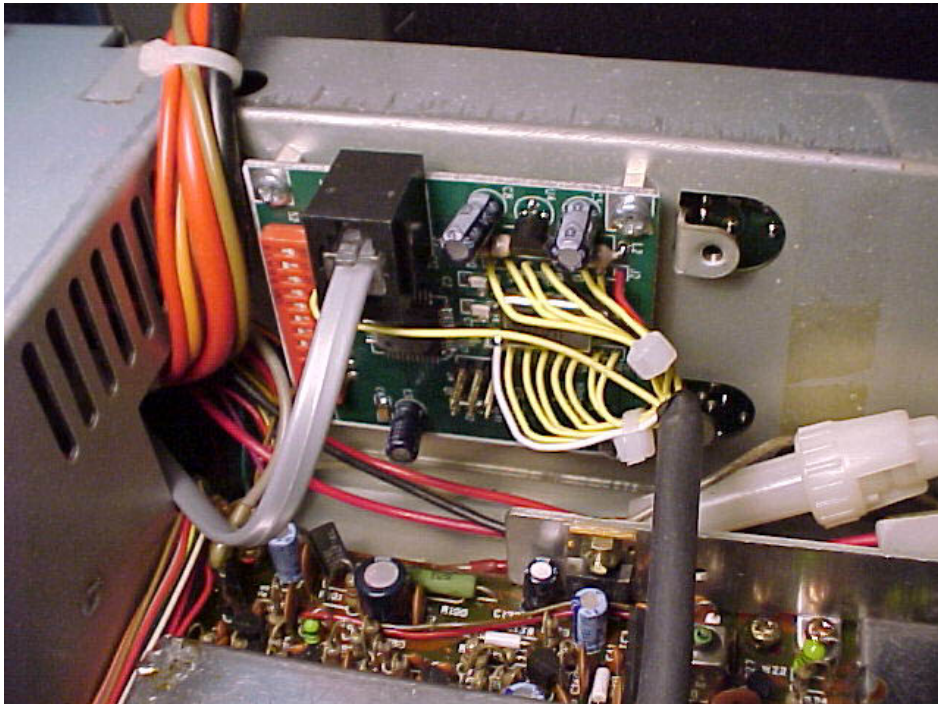

Figure 5.
7. Mount the UX-14PX board as shown in figure 5. Use the 4 supplied 4-40 3/16 pan head screws to secure the board to the standoffs.
9. After examining figure 5, install the single wire connector on to the right most pin pin 8, of connector J12. This is the signal lead that picks off the status of the SPEECH button. If you have a voice synthesizer installed in your radio, connector J12 will be populated and you won't be able to install this signal lead. Without the SPEECH button connected, the system will still work but you won't have the 6-channel memory stack functionality.